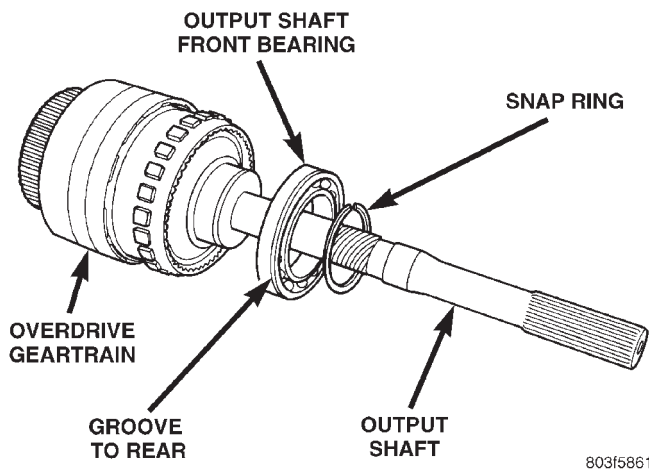

Fig. 47 Output Shaft Front Bearing
- (1) Remove overdrive unit from the vehicle.
- (2) Remove overdrive geartrain from housing.
- (3) Remove snap ring holding output shaft front bearing to overdrive geartrain. (Fig. 47).
- (4) Pull bearing from output shaft.
- (1) Place replacement bearing in position on geartrain with locating retainer groove toward the rear.
- (2) Push bearing onto shaft until the snap ring groove is visible.
- (3) Install snap ring to hold bearing onto output shaft (Fig. 47).
- (4) Install overdrive geartrain into housing.
- (5) Install overdrive unit in vehicle.